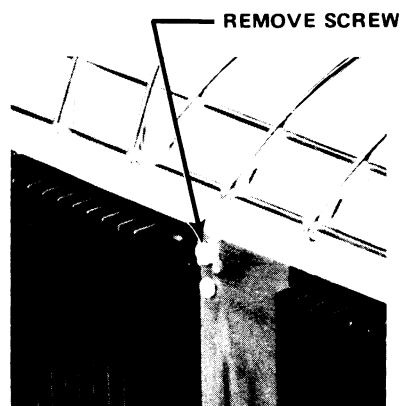

Figure 4-1. TOP COVER SHIPPING SCREW
- 4) If not already done, remove the shipping restraint screw from the rear of the top cover (Fig. 4-1).